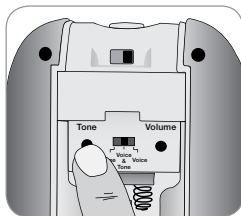

Fig. 5
3. Press TONE button (Fig. 5) to scroll through the tone selections.
5. Each time you press the button, tone will change and a two (2) second sample plays. The last sample heard is the tone utilized for the alarm when the magnet is removed from the face plate, depending on which monitoring mode is selected.